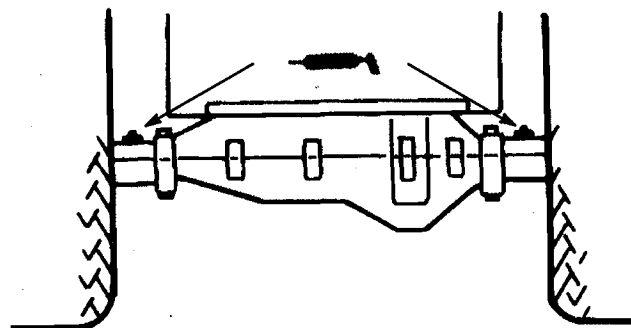

Figure 14
2. Lubricate the rear axle with 3–4 pumps of grease (Fig. 14).